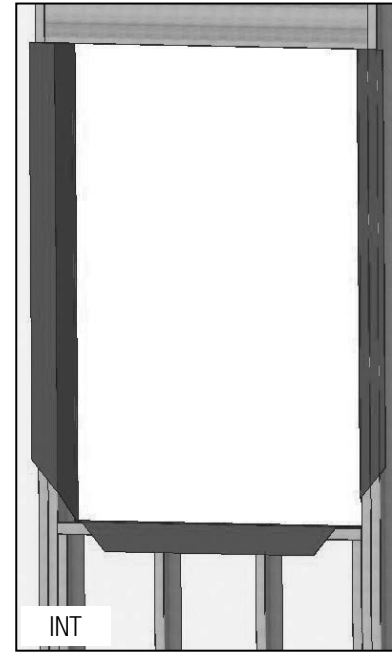

FIG. 4
- H) Fold back the WRB on the sides and sill toward the interior and staple into place. (Fig. 4)